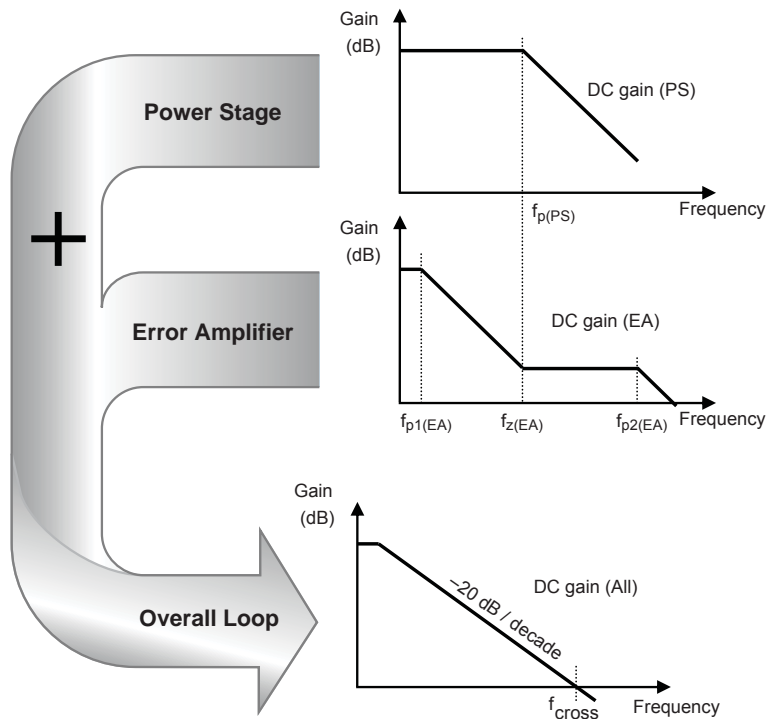

Figure 6. Power stage, error amplifier, and combined overall control loop response
Figure 6 illustrates the power stage gain, the error amplifier gain, and then the combined overall loop response (power stage and error amplifier).
2. Overall DC gain (refer to figure 6):